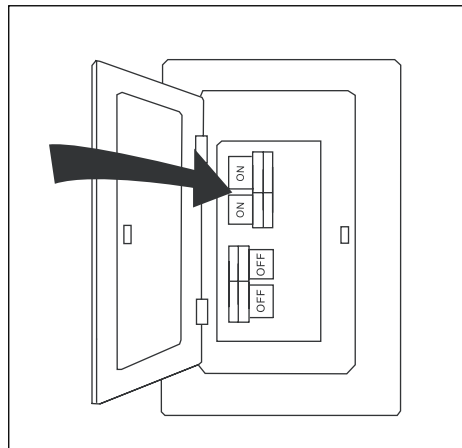

Figure 4.11
11. Turn ON the electrical power at the main fuse or circuit breaker and the wall switch (Figure 4.11). **Assembly is complete.**